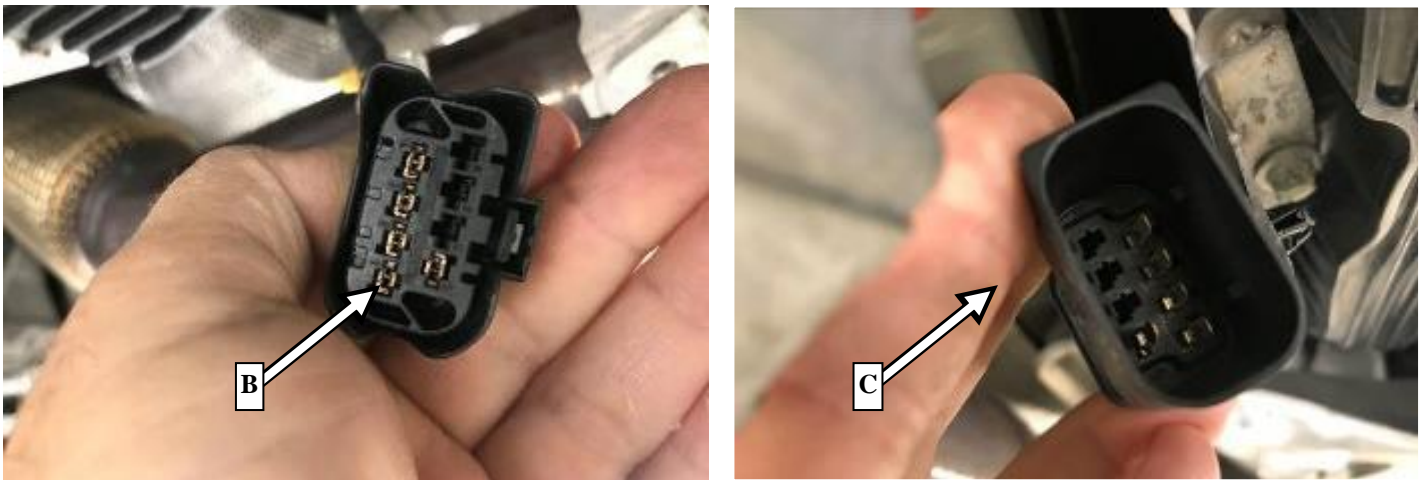

Figure 2
3. Check insides of connector coupling on vehicle-side wiring harness **A 290 540 99 14** (B, Figure 2) and transfer case wiring harness **A 213 540 32 69** (C, Figure 2) for corrosion and other damage or noticeable problems.
- b. If OK, **remove pins** from **vehicle-side** wiring harness (B, Figure 2) using special tool **W 220 589 01 99 63** (Figure 3) individually and **one after the other**, check for corrosion and damage, **and reinsert pins**.